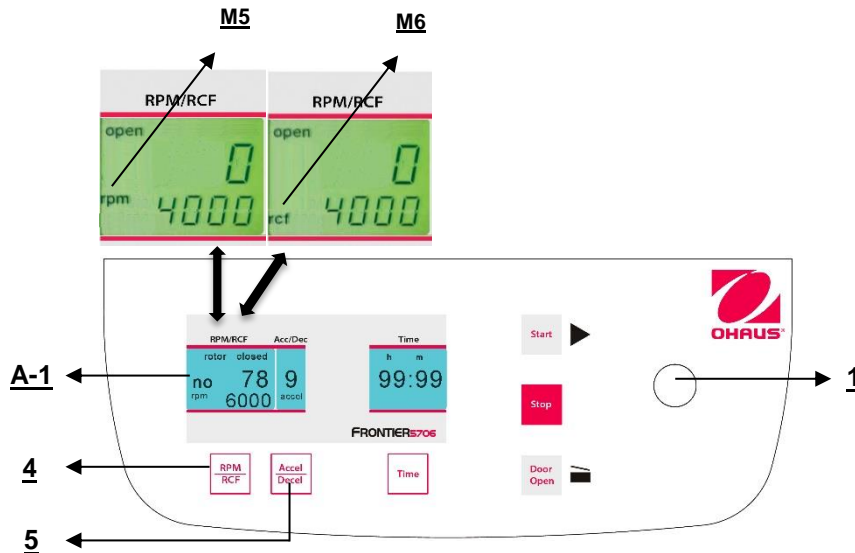

Figure. 19
This pre-selection is activated through the key "**RPM | RCF**" (4) (refer to figure 19 below). By pressing the key once the word "**rpm**" (M5) flashes. By pressing the key twice the pre-selection of the centrifugal forces can be selected. Then the flashing word "**rcf**" (M6) appears. You can set the desired values with the adjusting knob (1). In the display (A-1) the regulated value is shown permanently, before, during and after the run.